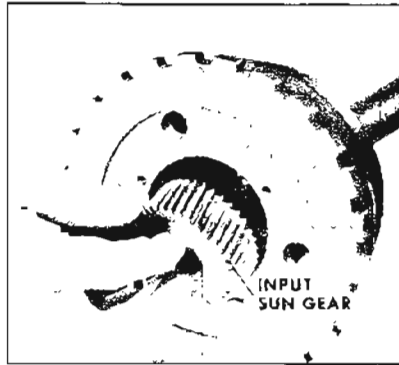

Figure 5-262
7. Remove input sun gear. See Figure 5-262.